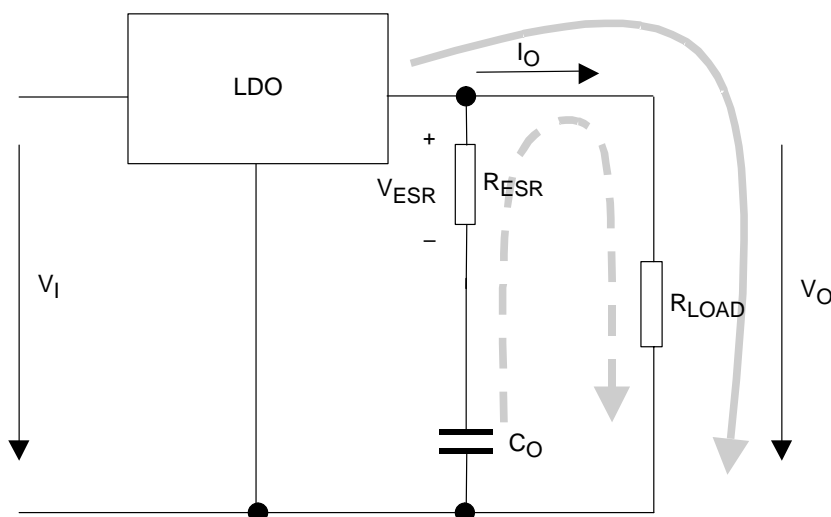
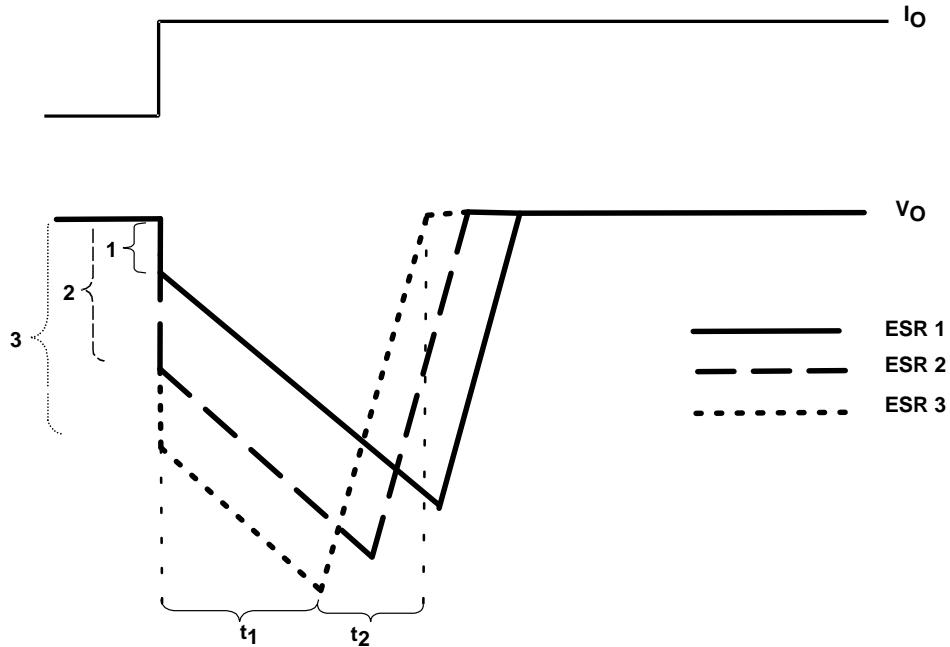

Figure 22. LDO Output Stage With Parasitic Resistances ESR and ESL
Figure 23. Correlation of Different ESRs and Their Influence to the Regulation of V_o at a Load Step From Low-to-High Output Current
Figure 22 shows the output capacitor and its parasitic impedances in a typical LDO output stage.
- The LDO is not able to supply the sudden current need due to its response time (t_1 in Figure 23). Therefore, capacitor C_O provides the current for the new load condition (dashed arrow). C_O now acts like a battery with an internal resistance, ESR. Depending on the current demand at the output, a voltage drop will occur at R_{ESR} . This voltage is shown as V_{ESR} in Figure 22.
- When C_O is conducting current to the load, initial voltage at the load will be $V_O = V(C_O) - V_{ESR}$. Due to the discharge of C_O , the output voltage V_O will drop continuously until the response time t_1 of the LDO is reached and the LDO will resume supplying the load. From this point, the output voltage starts rising again until it reaches the regulated voltage. This period is shown as t_2 in Figure 23.
Figure 23 also shows the impact of different ESRs on the output voltage. The left brackets show different levels of ESRs where number 1 displays the lowest and number 3 displays the highest ESR.